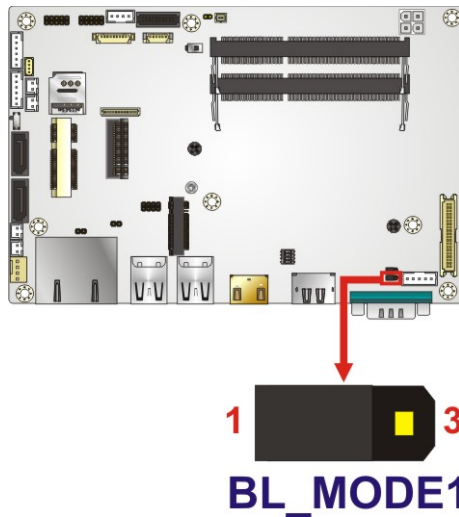

Figure 4-12: Backlight Mode Select Jumper Location
- Jumper Location:** See **Figure 4-12**